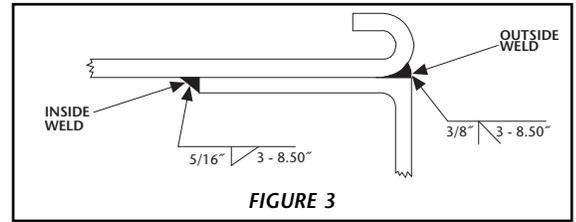

FIGURE 3
Inboard Angle Mounting (See Figures 3 and 4):
- Weld as shown in **Figure 3**. Make 5/16" fillet welds inside and 3/8" groove welds on the outside with skip welds 3" long on approximately 8½" centers (weld 3", skip 5½"). Weld inside opposite skips on the outside. **ALSO WELD:** The plate to the top of the angle at the ends of the plate.